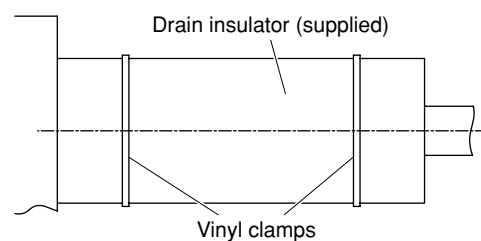

Fig. 3-11
(2) After checking the drainage, wrap the supplied packing and drain pipe insulator around the pipe, then secure it with the supplied clamps. (Fig. 3-11)